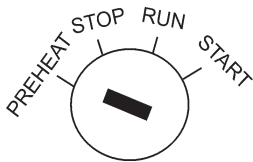

Figure 46. Ignition Switch (Pre-Heat)
6. When starting the generator in **COLD** weather conditions, turn the **ignition key** to the “PREHEAT” position (Figure 46),